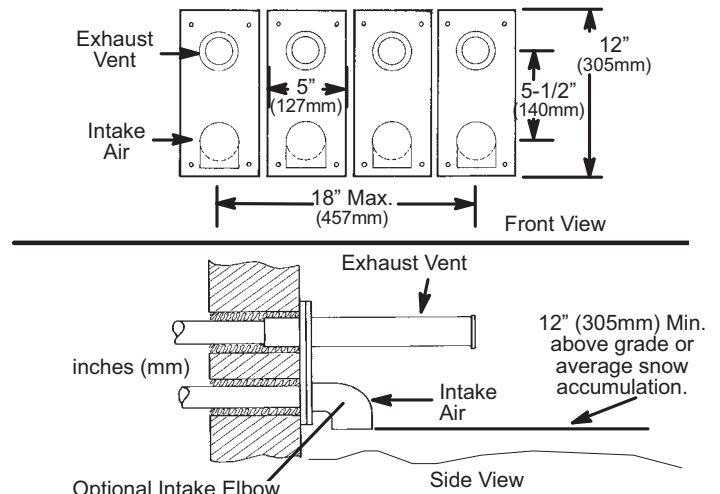

Figure 36. Optional Vent Termination for Multiple Unit Installation of Direct Vent Wall Termination Kit
- A multiple furnace installation may use a group of up to four terminations assembled together horizontally, as shown in **Figure 36**.